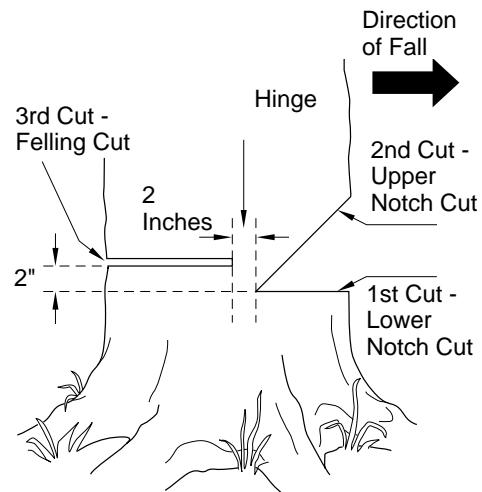

Figure 12 - Felling A Tree
A properly placed felling notch will determine direction tree will fall. Place felling notch on side of tree in direction you want tree to fall (see Figure 12). Follow directions below to create a felling notch.
1. Make lower notch cut as close to ground as possible. Hold saw so guide bar is horizontal. Cut 1/3 the diameter of tree trunk (see Figure 12). *Note:* Always make this horizontal lower notch cut first. If you make this cut second, tree can pinch chain or guide bar.
Example: If lower notch cut is eight inches deep, start upper notch cut eight inches above it. Cut downward at 45° angle. The upper notch cut should meet end of lower notch cut (see Figure 12).
1. Make felling cut two inches higher than lower notch cut and on opposite side of tree (see Figure 12). Keep felling cut parallel to lower notch cut.
WARNING: Do not cut all the way through tree. Leave about two inches of tree diameter uncut directly behind felling notch (see Figure 12). This uncut portion acts as a hinge. The hinge helps keep tree from twisting and falling in wrong direction.